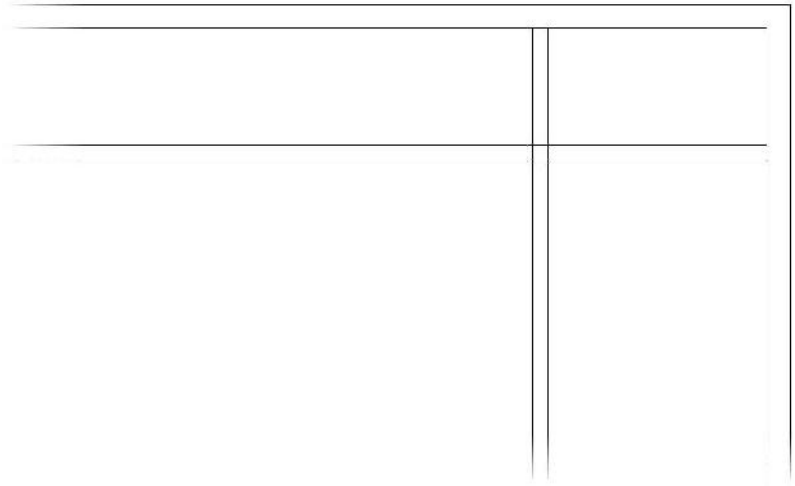

FIGURE 4.25: Offsetting the lines for the second wall
3. Offset the inside line of the right exterior wall 4'-8" (1420 mm) to the left; then offset this new line 4" (100 mm) to the left (see Figure 4.25).